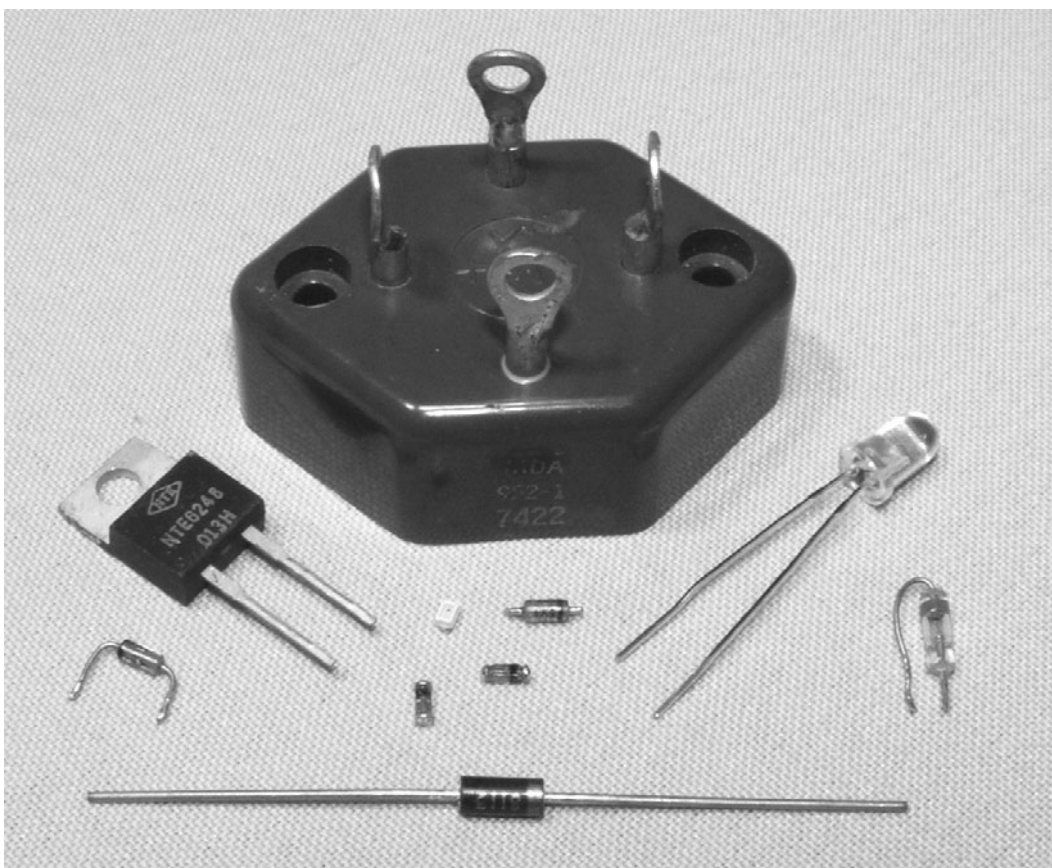
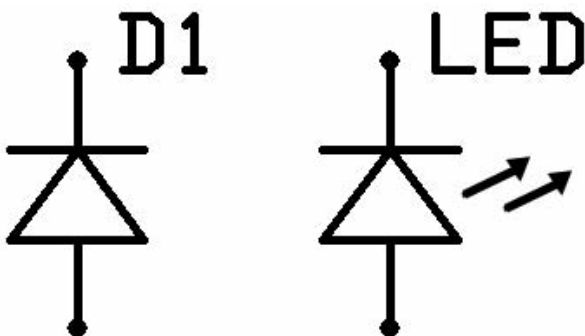

Figure I-16 Several styles of diodes, including an LED.
Figure I-17 Diode schematic symbol (LED on the right).
*Diodes* allow current to flow through them in one direction only, so they can be used to rectify ac into direct current (dc), block unwanted current from entering a device, protect a circuit from a power reversal, and even give off light in the case of LEDs. Figure I-16 shows various sizes and types of diodes, including an easy recognizable LED and the large full-wave-rectifier module at the top. A full-wave rectifier is just a block containing four large diodes inside.
For example, the NTE6248 diode shown in Figure I-16 in the TO220 case (left side of figure) has a datasheet that indicates that it is a Schottky barrier rectifier with a peak reverse-voltage maximum of 600 V and a maximum forward current rating of 16 A. Datasheets will tell you everything you need to know about a particular device, and you should never exceed any of the recommended values if you want a reliable circuit. The schematic symbol for a diode is shown in Figure I-17, D1 being a standard diode and the other an LED (the two arrows represent light leaving the device).